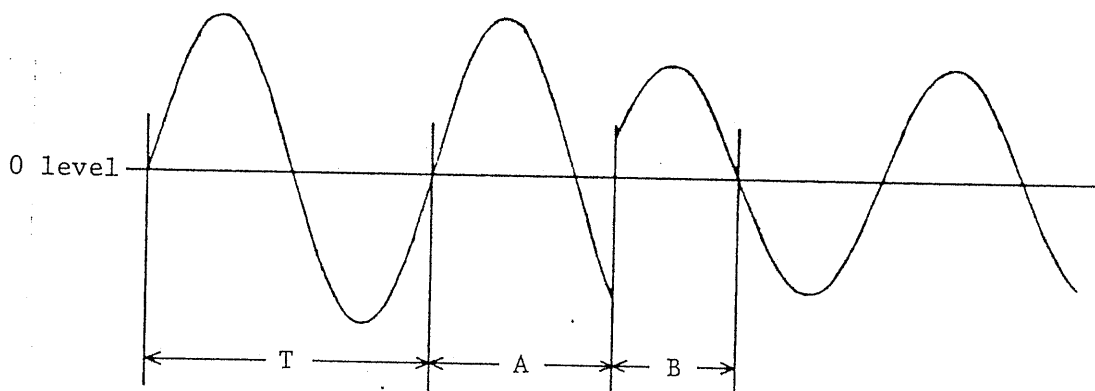

Fig. 17
Set the oscilloscope in the horizontal dual-trace STEREO mode as in the above measurement (1), and set the TRIGGERING selector in the CHL state (press button (28)). Apply the reference signal to the CHL input terminal (18) and the measured signal to the CHR input terminal (19). Determine the distances from the junction point of the two signals to the points where the two signals cross the horizontal base line and denote them by A (DIV) for CHL and B (DIV) for CHR as shown in Fig. 17. Denoting one cycle period of the signal by T (DIV), the phase difference can be calculated with the following equation: